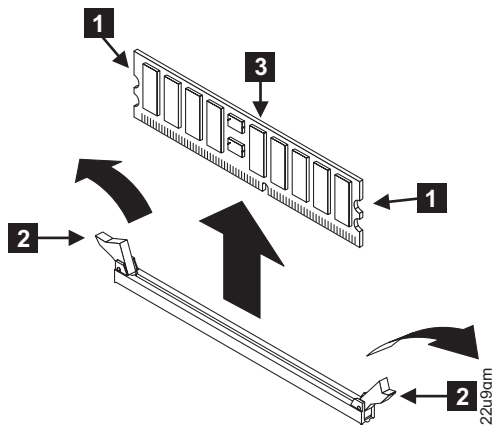

Figure 117. Removing the memory modules
4. Open the clips **2** by pressing them outward, as shown in Figure 117. This action pulls the memory module **3** out of the connector.